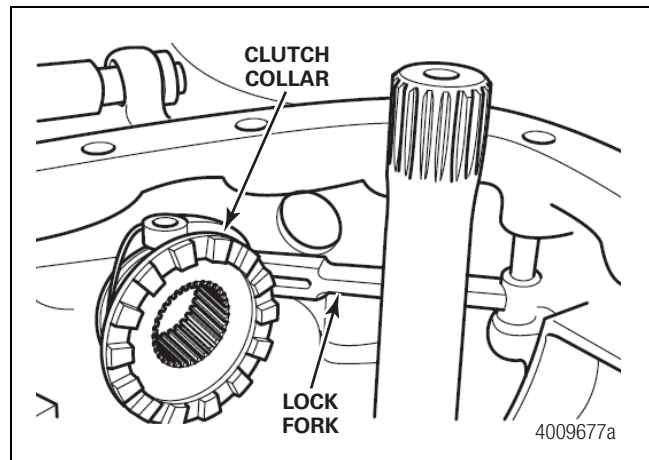

Figure 6.12
9. Rotate the shift fork and align the hole on the fork with the hole in the housing. Install the pivot pin through the housing and fork. Figure 6.12.